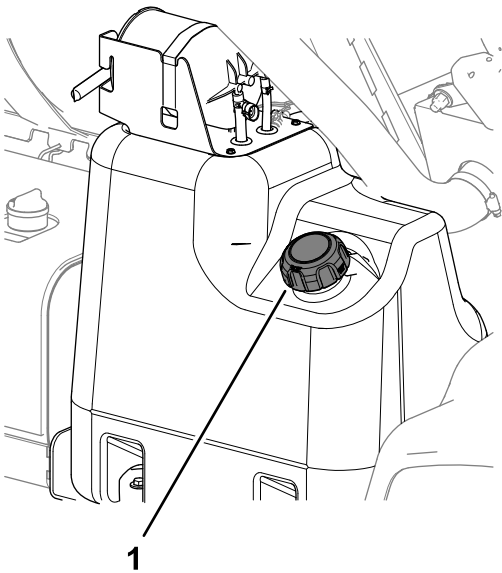

Figure 22
2. Clean the area around the fuel-tank cap (Figure 22).